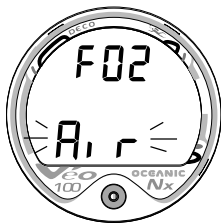

Fig. 17 - SET MODE ENTRY
- Upon entry into Set Mode, the Set FO2 screen will be displayed with the Set Point flashing (Fig. 17).